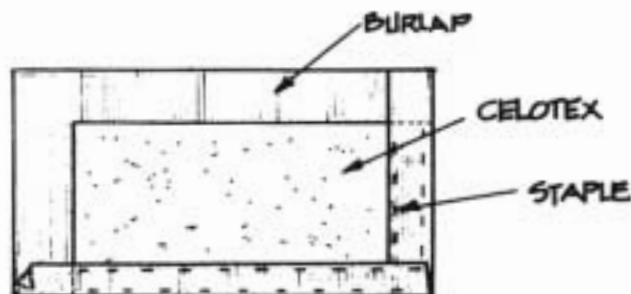

FIGURE 6
2. Construct the bulletin boards by stapling the burlap material to the Celotex. (Fig. 6)